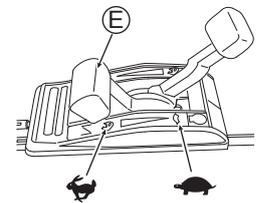

Fig. 12
- Confirm that there is no person behind you when pulling Starter knob (V).
- Securely grab Starter knob (V) when you pull it.
- Return Starter knob (V) slowly.
5. Warm up the machine before use. After the engine has warmed up, start mowing by setting Throttle lever (E) to "⌂". (See Fig. 12)